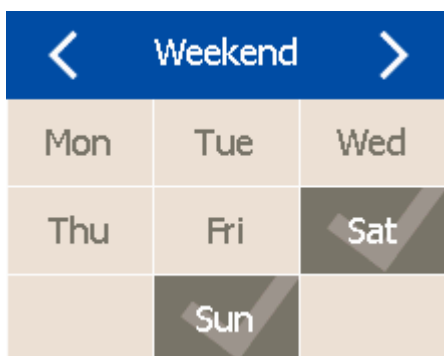

Fig. 93: Weekend
- 3. ▶ Go to the 'Weekend' screen (Fig. 93).